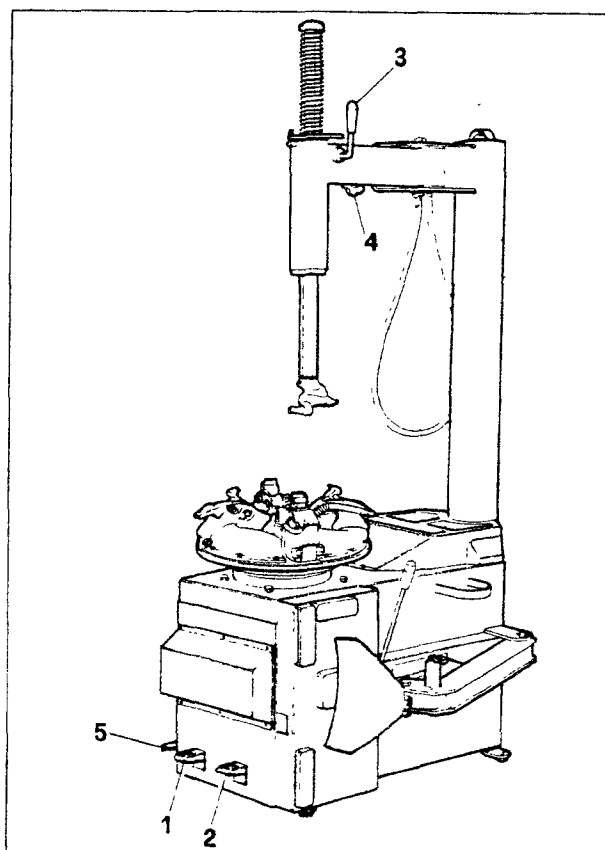

Fig.7
A. Press down and release the left pedal (#1 Fig.7) and the rim clamps will move inward.
B. Open the bead breaker arm. Press down and hold, the right pedal (#2 Fig.7) and the bead breaker arm will move towards the machine. Release the pedal: and the bead breaker arm can be pulled away from the machine and tire.
C. Close the bead breaker arm. Press down and hold, the right pedal (#2 Fig.7) and the turntable turns clockwise.
D. Move the lock handle (#3 Fig.7) up to lock the vertical slide, pull it down to release it.
E. Use the adjustment knob (#4 Fig.7) to position the mount/demount head for different diameter wheels.